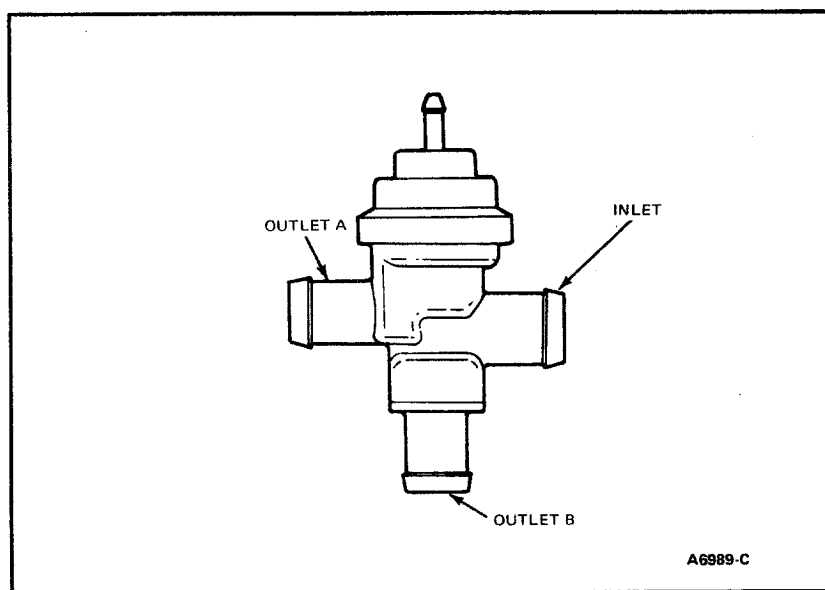

Figure 1 Standard Air Control Valve
2. Disconnect the air supply hoses at outlets A and B (Fig. 1).